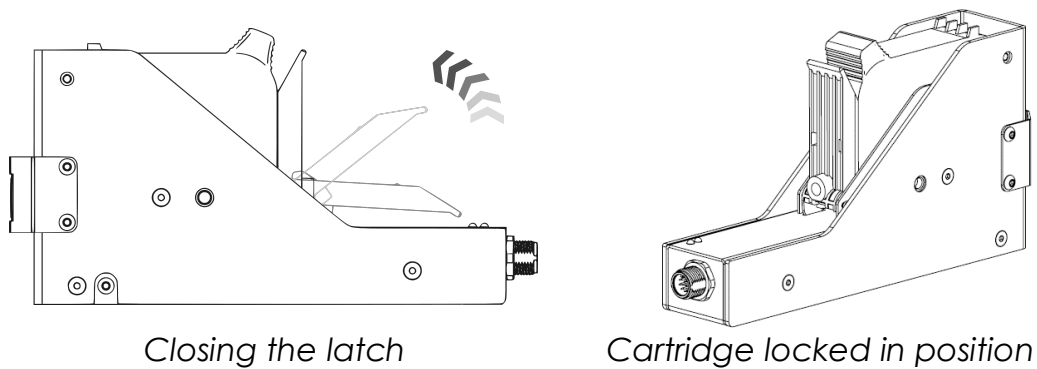

Figure 34
- Close the latch and lock the cartridge in place as shown in Figure 34.